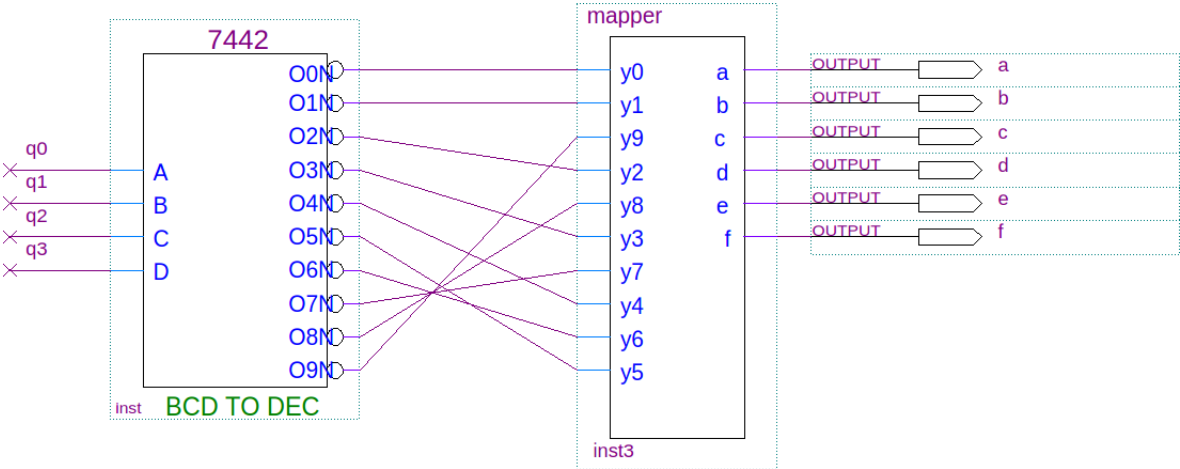

Figure 2.8: Detailed connection of 7442, mapper and outputs.
3. Refer to Figure 2.8. Label the 7442 inputs as q0, q1, q2, and q3. Connect the outputs of the 7442 and mapper using the diagonal node tool Add outputs and label accordingly.